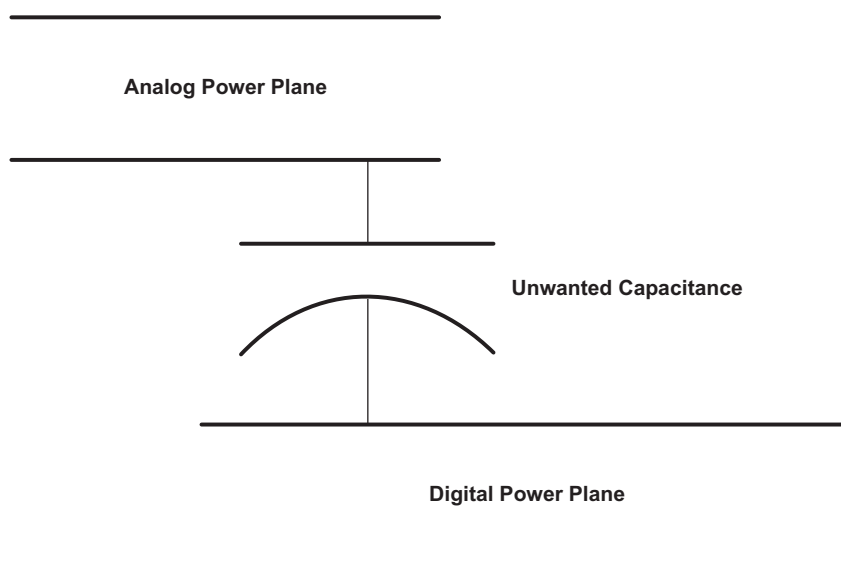

Figure 8. Do Not Overlap Planes
- Do not overlap planes that do not reference each other. For example, do not overlap a digital power plane with an analog power plane as this produces a capacitance between the overlapping areas that could pass RF emissions from one plane to the other, as shown in Figure 8.